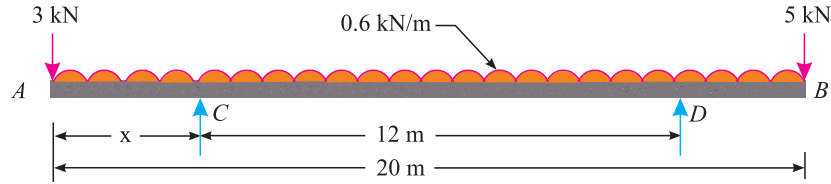

Fig. 13.50
4. A beam AB 20 metres long, carries a uniformly distributed load 0.6 kN/m together with concentrated loads of 3 kN at left hand end A and 5 kN at right hand-end B as shown in Fig. 13.50.